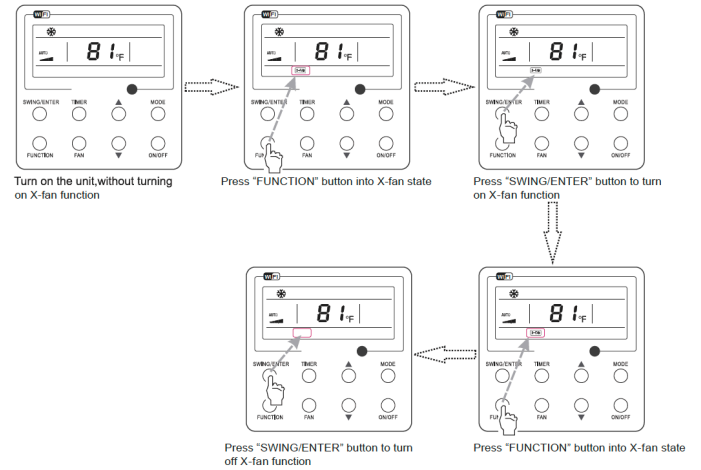

Fig.15 X-fan Setting
- X-fan function setting is as shown in Fig.15